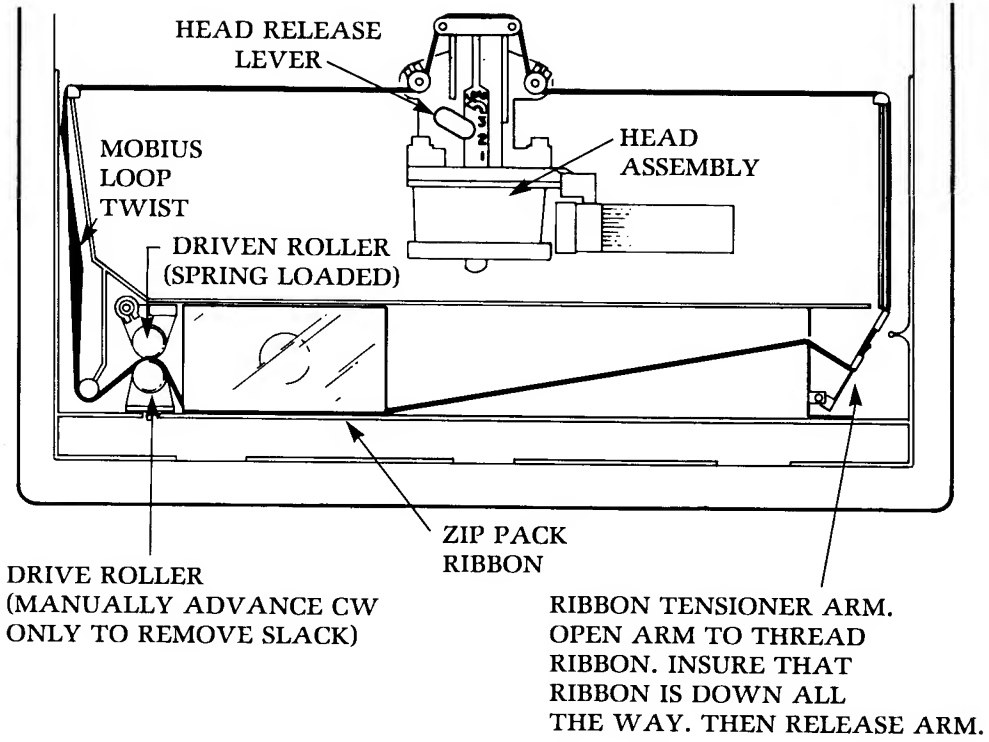

Figure 10. Ribbon Threading
4. With the plastic lever provided, push the spring-loaded **DRIVEN ROLLER** away from the **DRIVE ROLLER** and remove the old ribbon from between the rollers (see Figure 10).
7. Place the Zip-Pack in the printer ribbon tray close to the drive rollers (see Figure 10).
8. Pull sufficient ribbon out of the Zip-Pack and thread the ribbon according to the diagram, Figure 10. Twist the ribbon on the **left** side to form a mobius loop, as shown in the figure. **DO NOT TWIST THE RIBBON ON THE RIGHT SIDE**. On the right side, hold the spring-loaded **RIBBON TENSIONER ARM** open and thread the ribbon past the arm.
5. Take up slack in the ribbon by turning the **DRIVE ROLLER** clockwise (see Figure 10, the ribbon threading diagram).
17. Rethread the ribbon (refer to the ribbon threading diagram, Figure 10).
5. Take up slack in the ribbon by turning the **DRIVE ROLLER** clockwise (see ribbon threading diagram, Figure 10).
14. Rethread the ribbon (refer to Figure 10, the threading diagram).